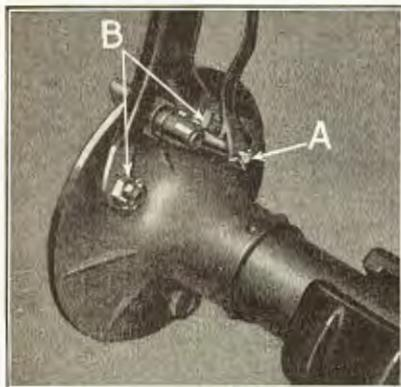

Fig. 329
573 Disconnect brake rod by removing cotter key and withdrawing clevis pin (See "A" Fig. 329). Remove radius rods by running off the two radius rod bolt nuts "B" and withdrawing bolts.
- 611 Install radius rods on housing by inserting the radius rod bolts through flange and forked end of radius rod, running down nuts tightly on ends of bolts and locking with cotter keys (See "B" Fig. 329).
- 612 Connect forked end of brake rod to cam shaft lever by inserting clevis pin through brake rod and lever and locking pin with cotter key (See "A" Fig. 329).